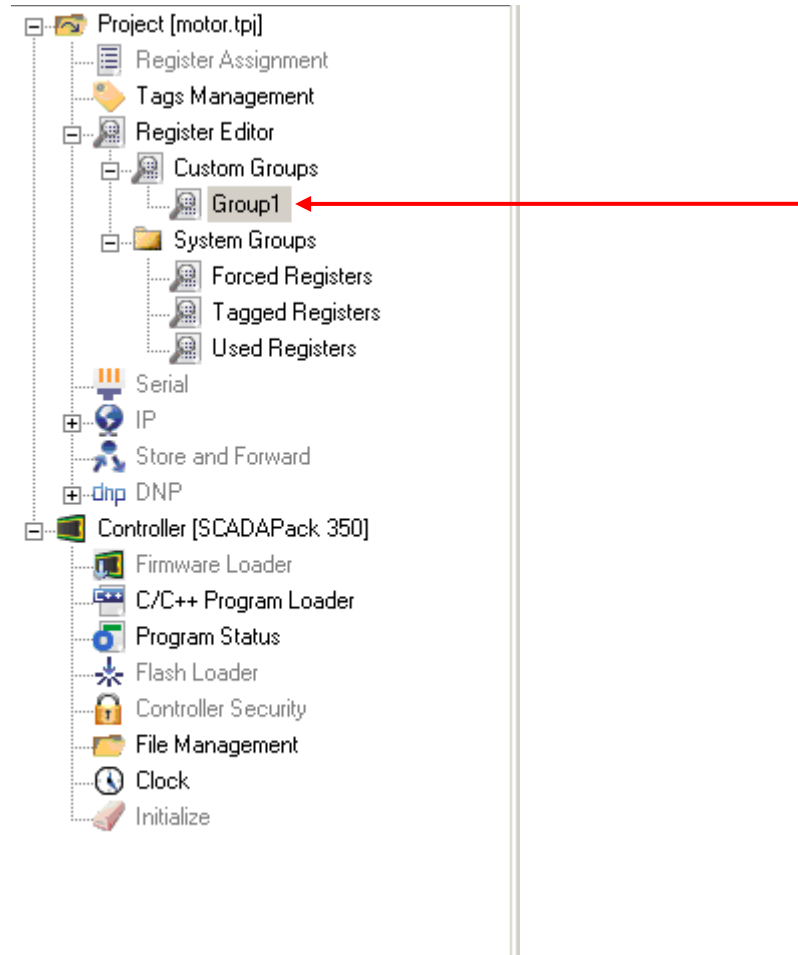

Figure 19: Register Editor in the Tree View
- Select **Group1** in the **Custom Groups** window- Group Name can be changed by Right-Clicking and selecting 'Rename Group. (See Figure 19)